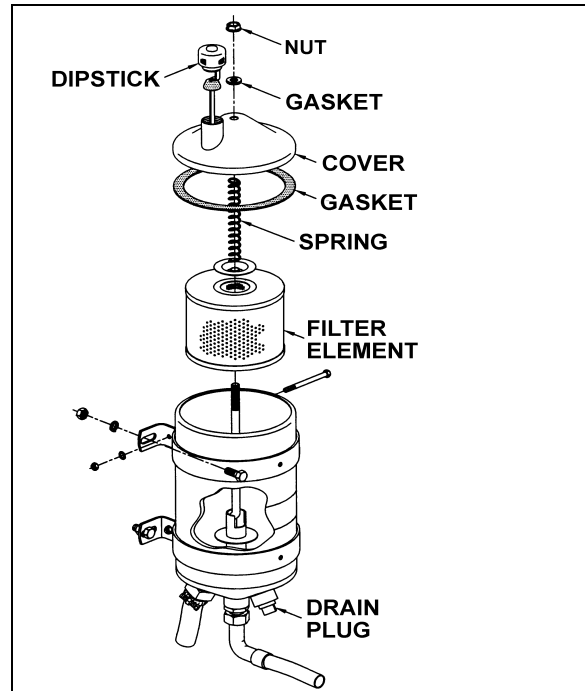

FIGURE 25: POWER STEERING FLUID RESERVOIR^{14018A}
3. Insert dipstick in reservoir. Remove it again to check fluid level (Figure 25).